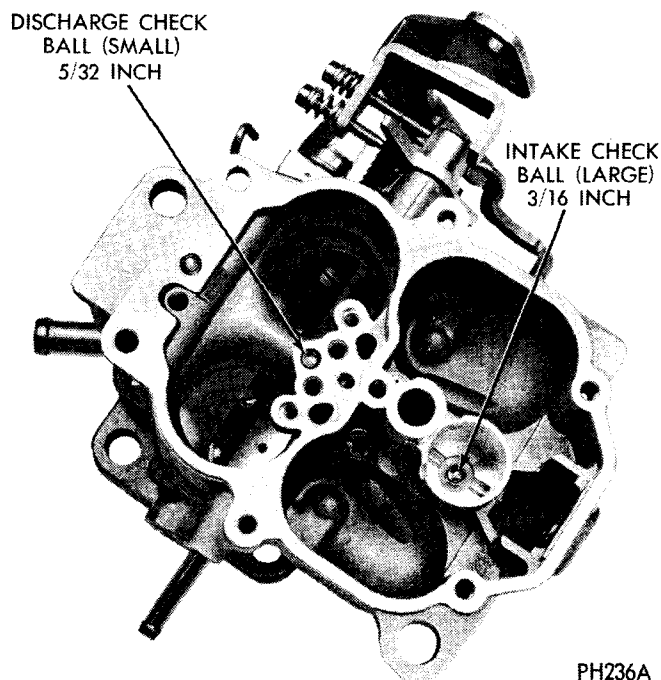

Fig. 15—Installing Accelerator Pump Intake and Discharge Check Balls
(1) Invert main body and place insulator in position, then place throttle body on main body and align. Install screws and tighten securely.
(2) Install accelerator pump discharge check ball (5/32 inch diameter) in discharge passage, (Fig. 15). Drop accelerator pump intake check ball (3/16 inch diameter) into bottom of the pump cylinder.